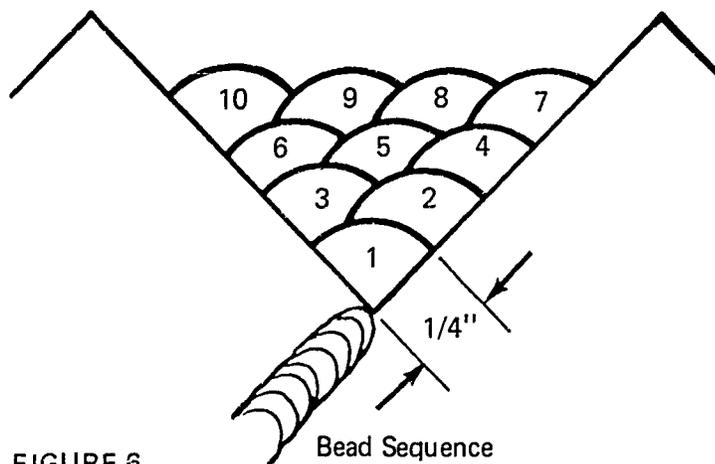

FIGURE 6
- K. Joint can be welded using stringer beads only (Figure 6)